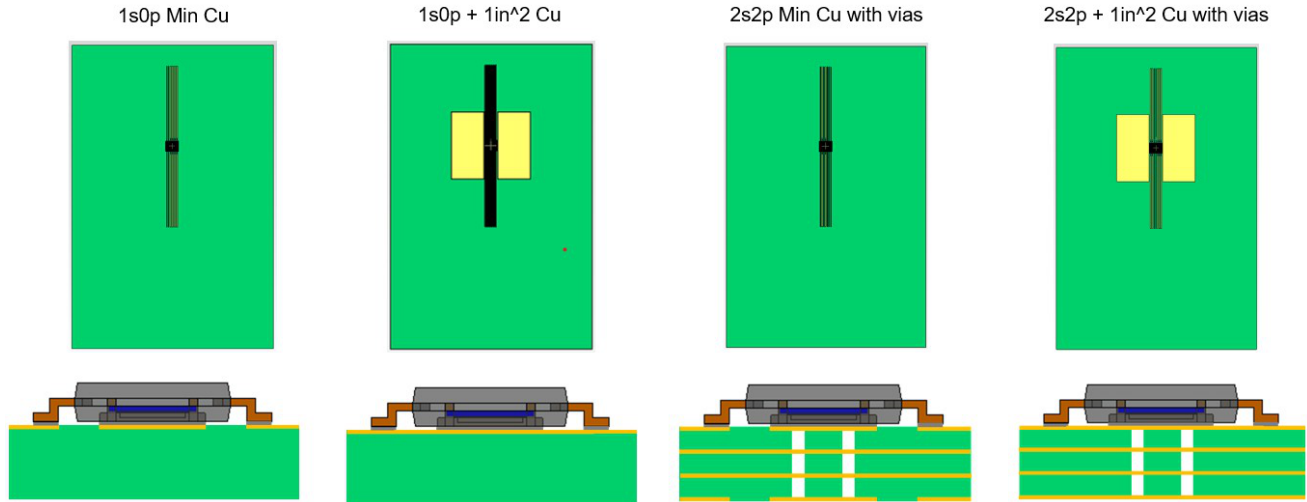

Figure 3. Board Construction for Thermal Performance
- Board construction based on JEDEC JESD 51-7 for a four layer 2s2p board with forced air convection. Vias were added under the exposed pad as shown in Figure 3.